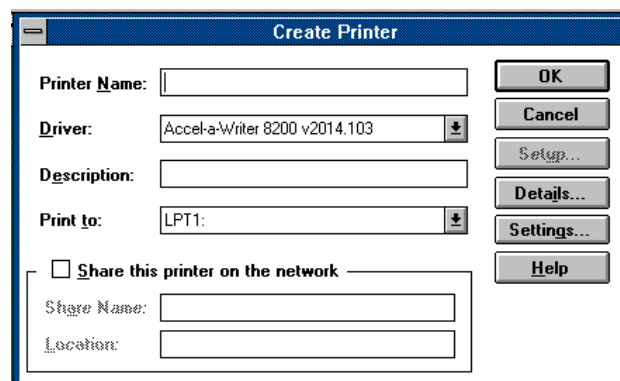

Figure 14. Create a Printer Dialogue Box
3. Select "Create a Printer" from the "Printer" menu to display the dialogue box in Figure 14.